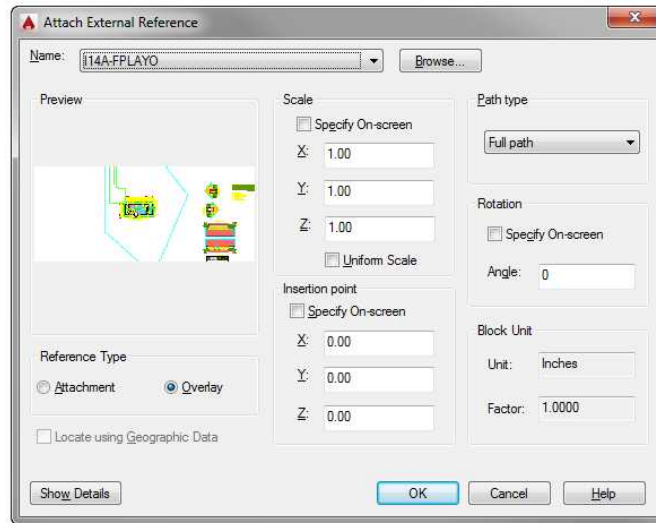

FIGURE 14.19 The Attach External Reference dialog box
5. Configure the Attach External Reference dialog box to match Figure 14.19.